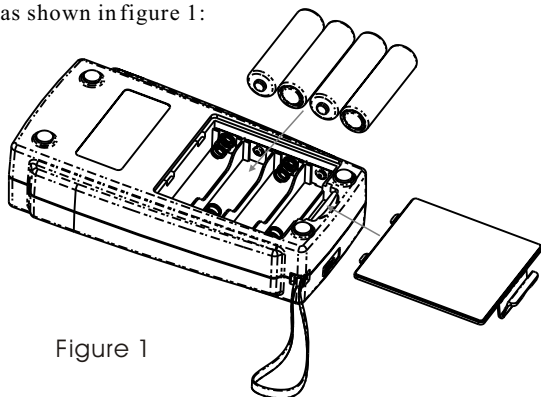

Figure 1
- Recover the battery door , and install the batteries properly as shown in figure 1: